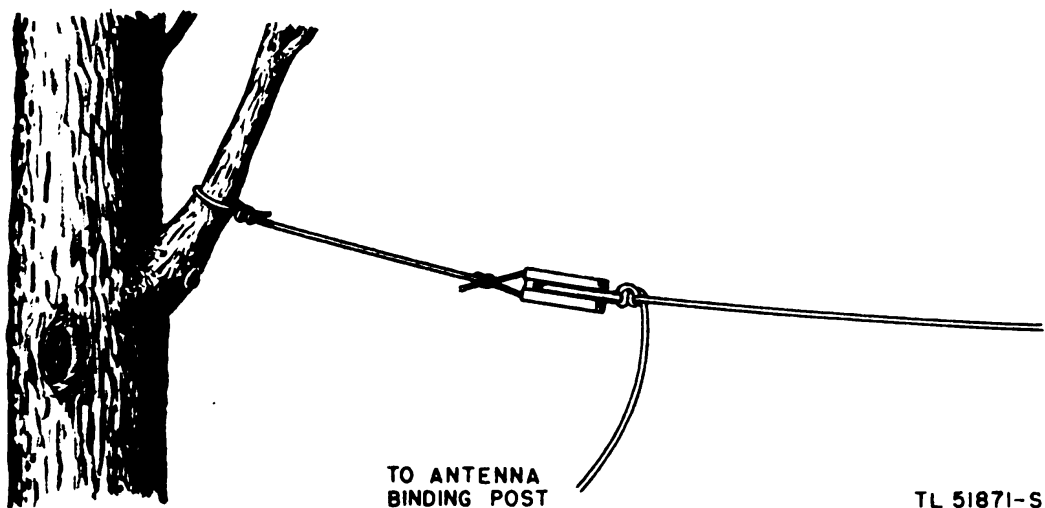

Figure 15. Method of supporting antenna wire.
(2) For efficient operation the antenna should be supported as high as possible above the ground. Do not fasten antenna wire directly to supporting object. Use the insulators provided and a length of cord or additional wire as shown in figure 15.